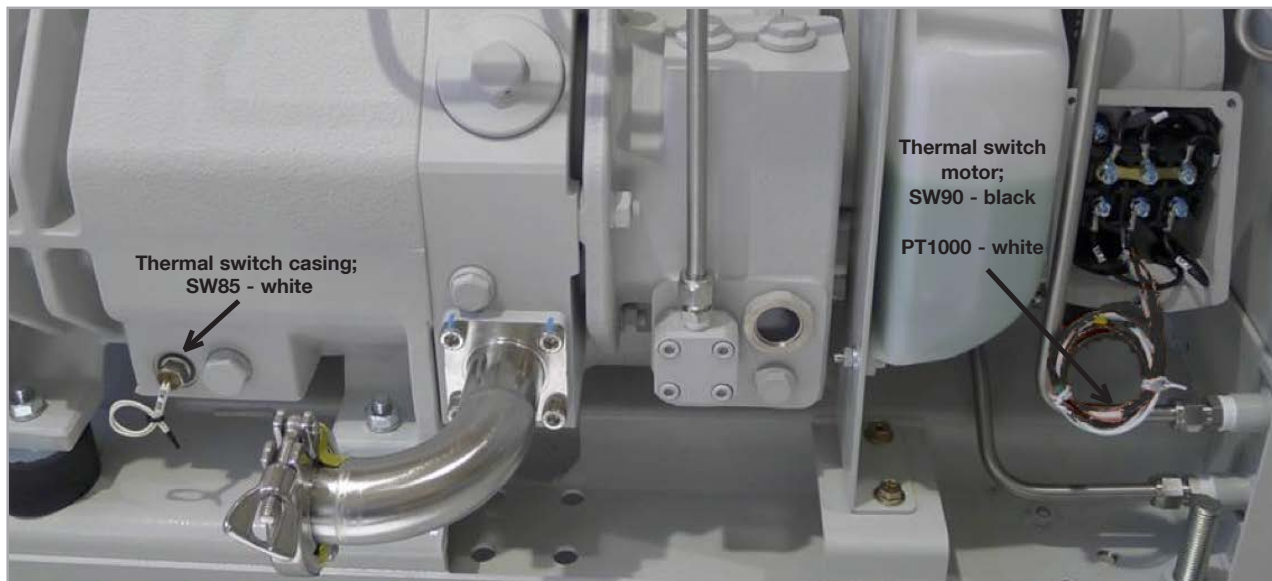

Fig. 3.3 Thermal switch positions
The LEYVAC has **no** switching devices of its own. Install an adequate motor protection switch for the equipment. The pumps are equipped with two thermal switches for motor and casing protection, and a Pt1000 sensing device for measuring the motor’s temperature (cf. Fig. 3.3).
- Connect the pump to the correct mains voltage through the connections in the junction box (cf. Fig. 3.3).